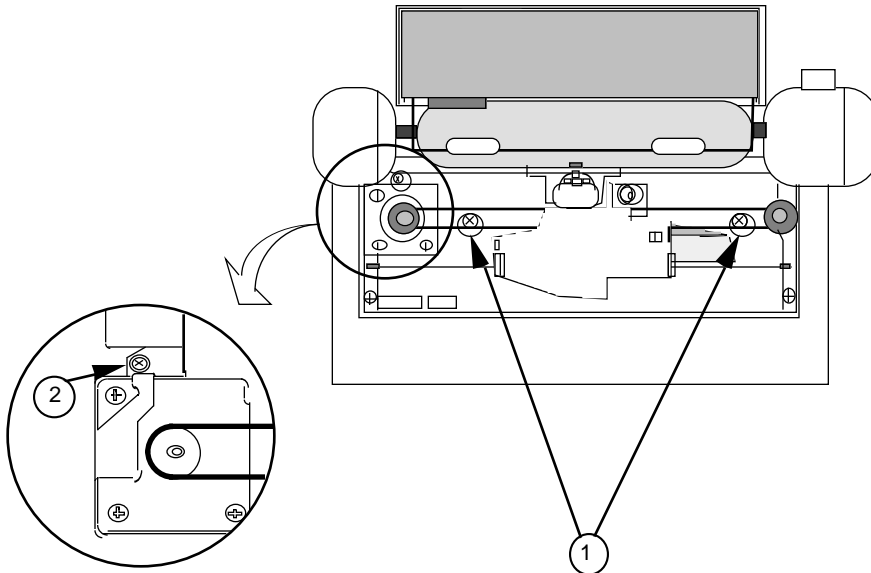

FIGURE 52
2. Place the connector bracket on top of the cut-sheet feeder connector so that the extension of the connector bracket (Figure 52, #2) faces the wide side of the connector and extends up into the printer and then down.
3. Place the cut-sheet connector onto the frame support at the rear of the printer. Be sure the narrow edge of the connector (Figure 52, #1) is facing away from the printer head.
4. Replace the two screws through the bracket and cut-sheet connector (Figure 52, #3).